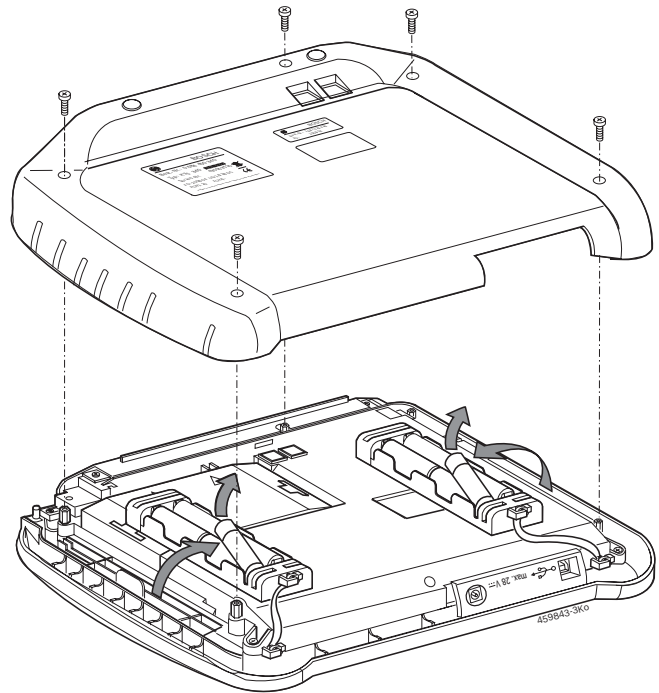

Fig. 4: Battery replacement
2. Slacken off the bolts (5x; Fig. 4; Item 1) on the back of the unit and detach the housing cover (Fig. 4; Item 2).
3. Take out the battery compartments on the left and right and set down on metal housing (Fig. 4; Item 3).
4. Take out the old batteries (Fig. 4; Item 4).